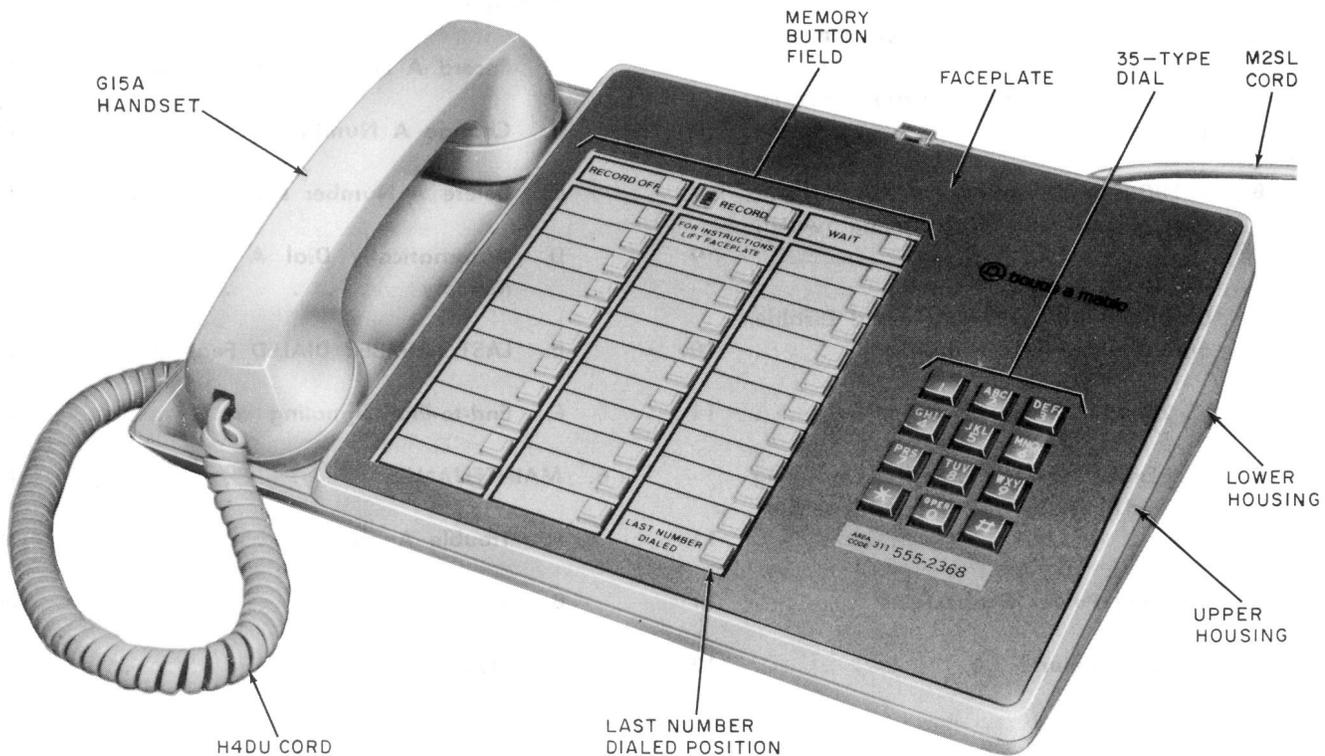

Fig. 1—2870A2M Telephone Set
1.01 This section contains information for the 2870A1M (MD) and 2870A2M telephone sets (Fig. 1).